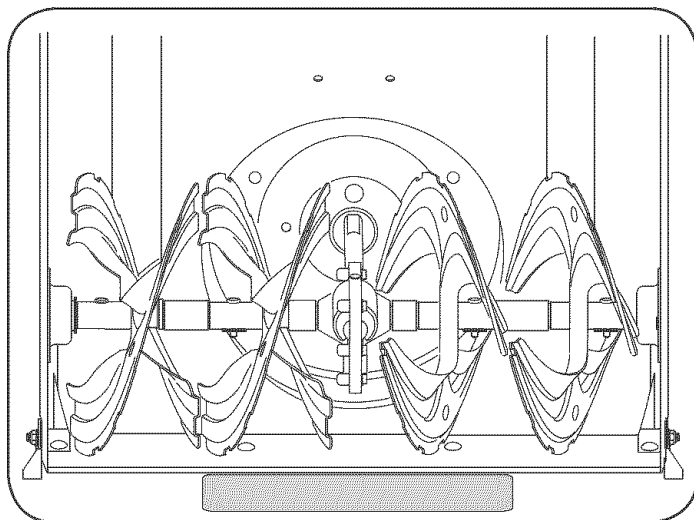

Figure 11
1. Place a block of wood (2 x 4) beneath the shave plate to temporarily raise the snow thrower's housing off the ground. See Figure 11.